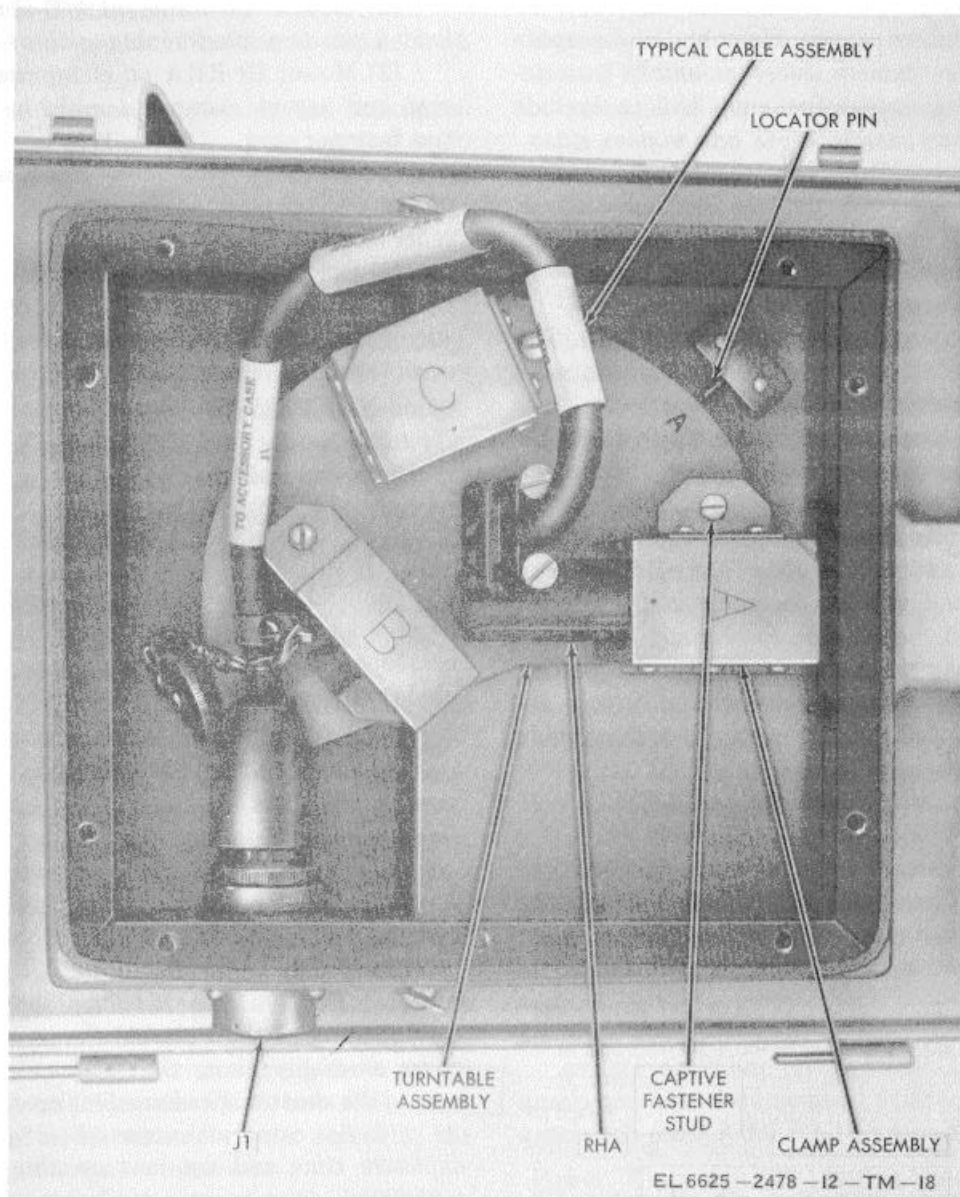

Figure 3-11. Typical installation of RHAT for testing.
Special Purpose, Electrical CX2728/U to the internal sic of connector J1 on the CY-7117/AYM-9. Connect connector P1 to the connector on the IP- 1080/AYA-00 (fig. 3-11).
(20) On SM-627/AYM-9, set ON-OFF switch to OFF.
(21) Loosen 10 captive fastener studs securing the welded plate assembly cover and remove cover.
(22) Loosen captive fastener stud securing damp assembly A and remove IP-1080/AYA-10 from the clamp assembly.
(23) Disconnect connector P1 of cable CX-12728- /U, removing the IP-1080/AYA-10.
(24) Close clamp assembly A and secure with captive fastener stud.
(25) Rotate turntable assembly for maximum access connector J1 (fig. 3-11).
(26) Disconnect connector P1 of cable CX-2728 /U from connector J1 on internal sic of the CY- 7117/AYM-9.
(1) Connect connector P1 of Cable Assembly, Special Purpose, Electrical, CX-2727/U to the internal sic of connector J1 on CY-7117/AYM-9. Connect connector P2 to connector on the SLAR RHA (fig. 3-11).
(2) Rotate turntable of the KE-59A until spring-loaded locator pin locks into position C.
(3) Mount SLAR RHA on clamp assembly C up to stop and secure clamp assembly by means of captive fastener stud.
(4) Mount welded plate assembly cover on top of the welded plate and secure with 10 captive fastener studs.
- (5) On SM-627/AYM-9, set RHA TEST SELECT switch to KA60, IR/SLAR, CDM.
- (6) On SM-627/AYM-9, set ON-OFF switch to ON.
- (7) Remove camera cover assembly from access opening of Polaroid Camera CU-5 and slide cover assembly along cable release to gain access to shutter speed lens opening levers.
- (8) Set camera shutter speed to T and set lens opening to f/8 (para 3-8 b(3)).
- (9) Slide camera cover assembly along cable release and press camera cover assembly into access opening of Polaroid Camera CU-5 to exclude extraneous light.
- (10) Depress camera cable release.
- (11) On S-627/AYM-9, depress SINGLE PULSE pushbutton. The SINGLE PULSE INDICATOR lamp shall flash.
- (20) On SM-627/AYM-9, set ON-OFF switch to OFF.
- (21) Loosen 10 captive fastener studs securing the welded plate assembly cover and remove cover.
- (22) Loosen captive fastener stud securing clamp assembly C and remove SLAR RHA from the clamp assembly.
- (23) Disconnect connector P2 rod cable CX-12727/U, removing the SAR RHA.
- If IR RHA test is to be performed, omit steps (24) through (26).
- (24) Close clamp assembly C and secure with captive fastener stud.
- (25) Rotate turntable assembly for maximum access to connector J1 (fig. 3-11).
- (26) Disconnect connector P1 of cable CX-12727
- (1) Connect connector P1 of Cable Assembly, Special Purpose, Electrical CX-12727/U to the internal sic of connector J1 on the CY-7117/AYM-9. Connect connector P2 to connector on the IR RHA (fig. 3-11).
- (2) Rotate turntable of KE-59A until spring-loaded locator pin locks into position C.
- (3) Mount IR RHA on clamp assembly C up to stop and secure clamp assembly by means of captive fastener stud.